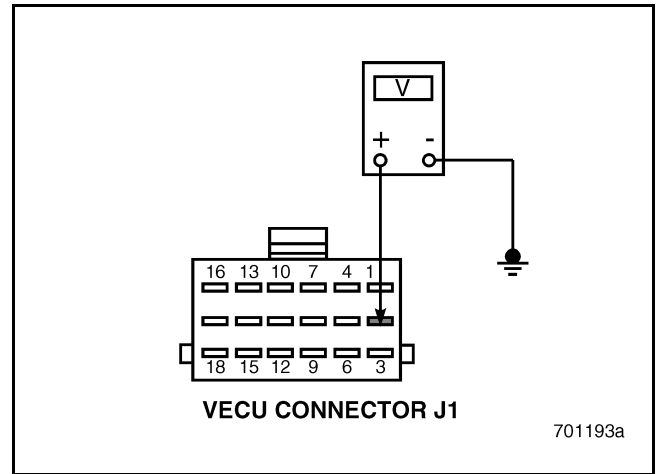

Figure 94
4. Measure the voltage between VECU connector J1 pin 2 and a good ground (see Figure 94).